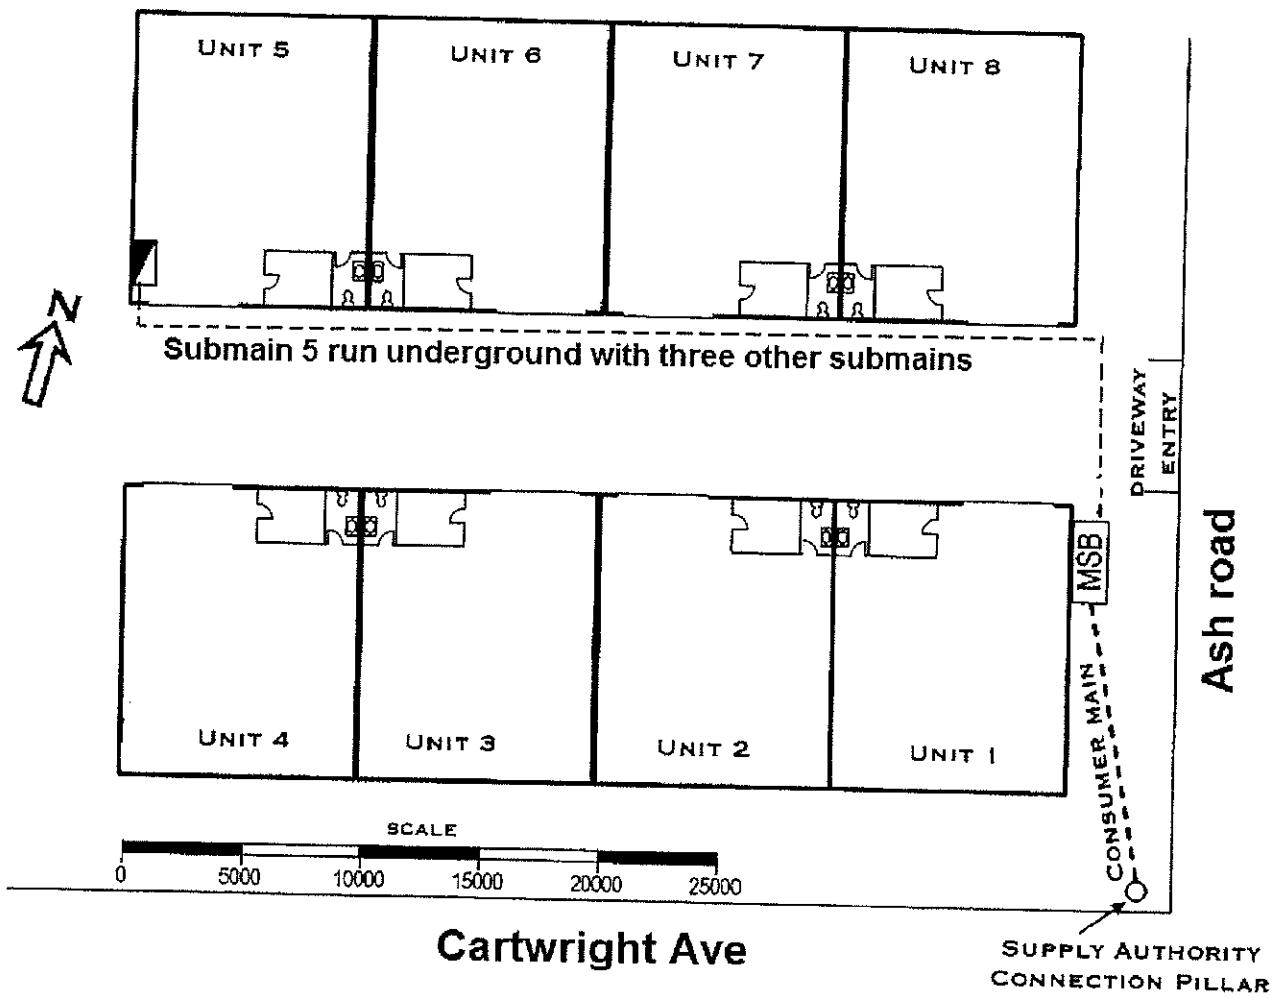
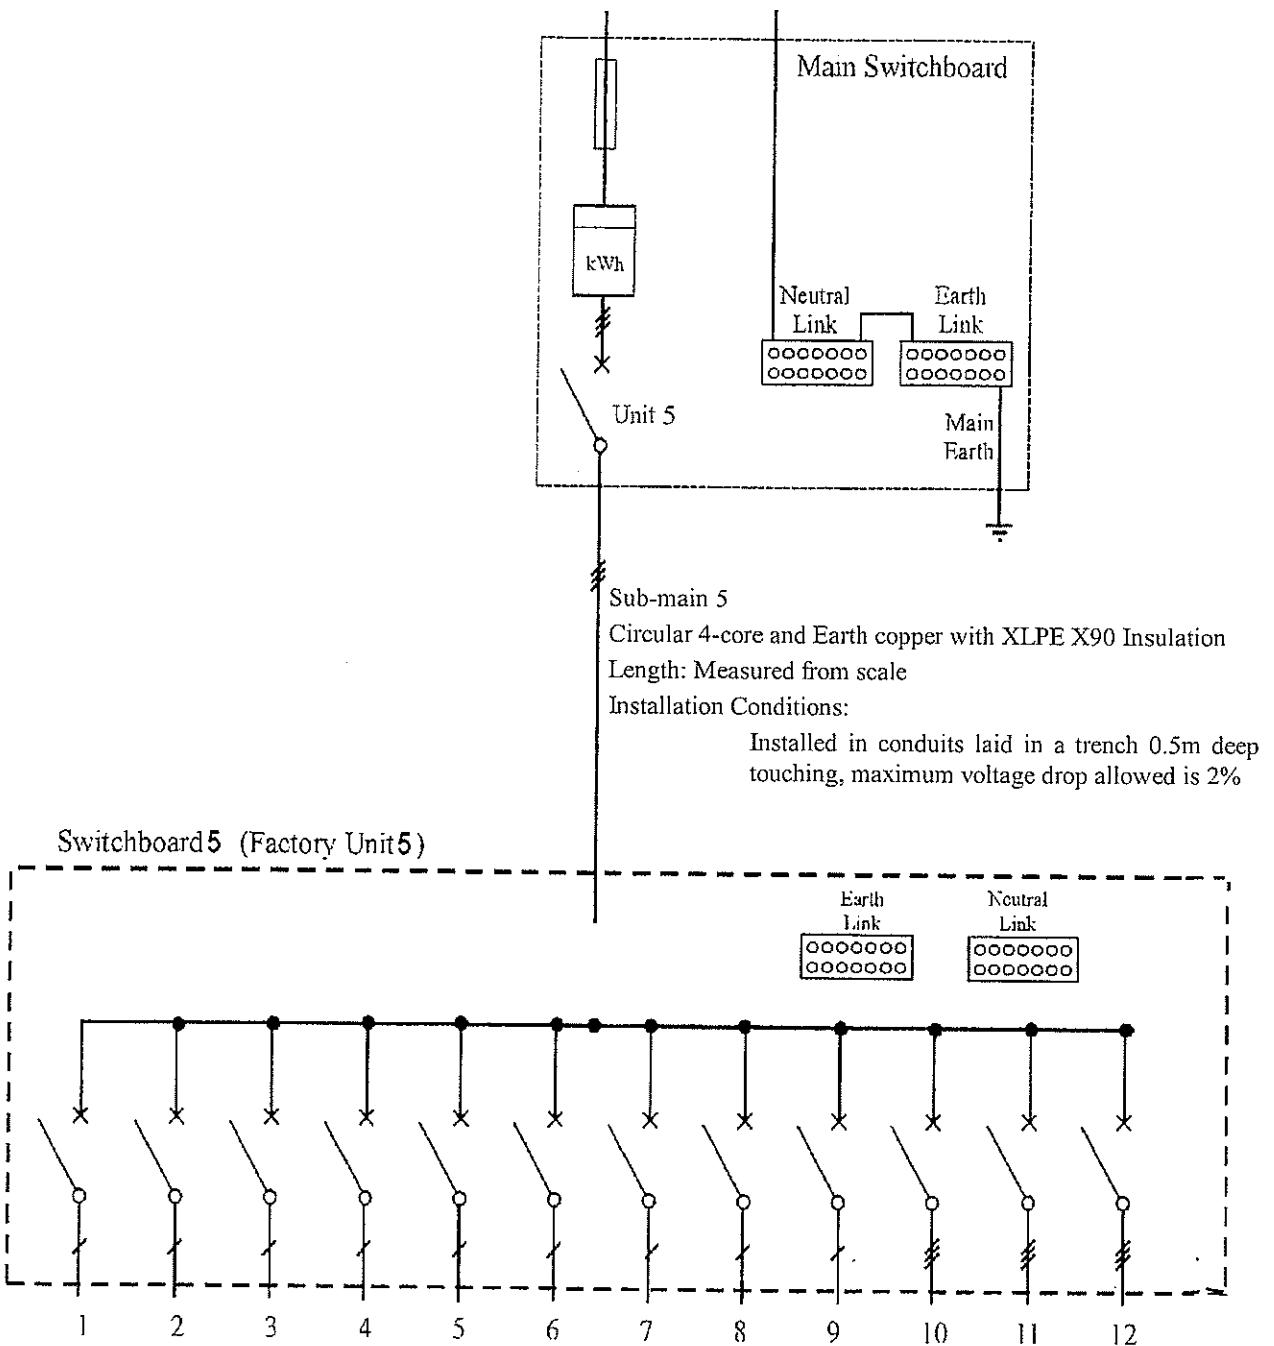

Figure 2
Figure 3
- 2 (a) If sub-main 5 supplying factory Unit 5 in Figure 2 has a maximum demand of 53 A, determine the minimum conductor size based on current carrying capacity when installed as shown in Figure 2 and Figure 3.
- 2 (b) If the sub-main to factory Unit 1 in Figure 2 was installed close to the roof where the ambient air temperature could reach 55°C, what de-rating factor would apply to the cable?
Calculate the maximum demand of the three-phase sub-main to Unit 5 shown in Figure 3 using the information provided in Table 1.
If the maximum demand of the sub-main to Unit 5 in Figure 2 was 110 A, what would be the minimum size of the active, neutral and earth conductors, based on current carrying capacity, for a V90 multi-core cable having copper conductors, installed in an underground duct together with three other sub-mains, when protected by a 120 A type 'D' circuit-breaker?
If the maximum demand of Unit 5 in Figure 2 was 85 A, and the sub-main supplying Unit 5 is X90 multi-core cables having 50 mm2 circular copper conductors, would the voltage drop be within the specified limit of 2.0% if the length of the sub-main is 50 metres?
If the sub-main cable to Unit 5 in Figure 2 was protected by an 85 A type 'D' circuit-breaker, calculate the tripping time for circuit-breaker if the source impedance at the MSB is 0.015 ohms.